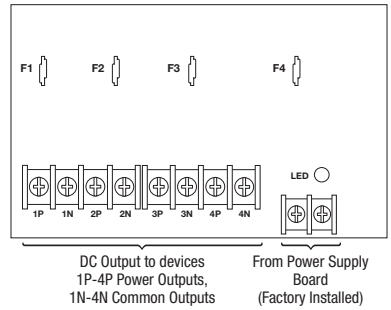

Fig. 3a - PD8 Power Distribution Board
- b. For other Power Distribution Models: connect devices to be powered to the terminal pairs 1 to 4 marked [1P & 1N] through [4P & 4N] (*Fig. 2a & 2b, pg. 6*) or 1 to 8 marked [1P & 1N] through [8P & 8N] (*Fig. 3a & 3b, pg. 6*), carefully observing correct polarity.